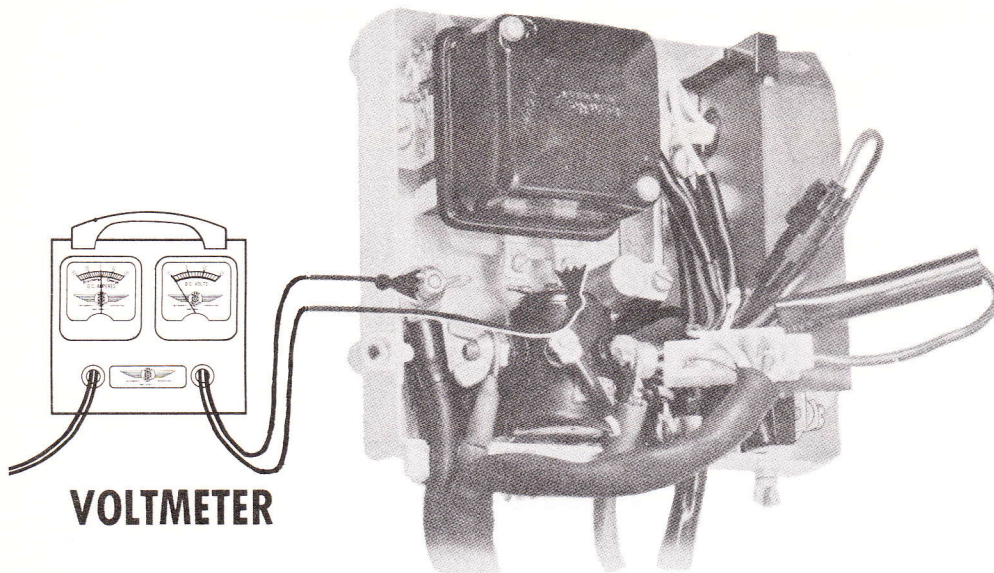

Figure 35
1. To check the voltage setting reconnect all connections and then connect the positive voltmeter lead to the regulator "BAT" terminal and the negative lead to ground. (Fig. 35).